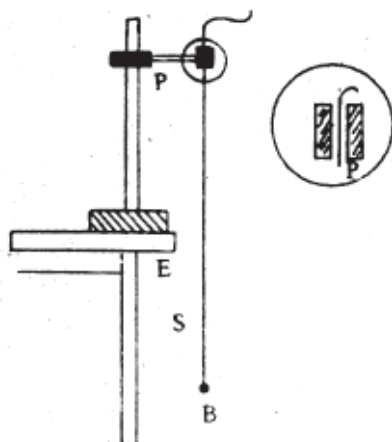
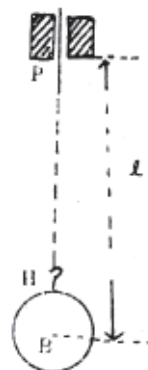

Fig. 4.1
Fig. 4.2
A simple pendulum is a small heavy 'bob' B hanging by a light and 'nextensible' string S (fig. 4.1). In '*equilibrium position*' string is vertical. While oscillating, the '*amplitude of oscillation*' is the maximum angle that the thread makes with the vertical (or sometime the maximum horizontal displacement of the bob). Its '*time period*' T , i.e., time taken for one oscillation depends on its '*length*' i.e. distance from point of suspension to C.G. of bob B (fig. 4.2):
- (ii) Pass the other end of the thread between two pieces of the split cork and clamp it in the clamp of the stand (Fig 4.1). The point P, where the thread comes out of the cork is thus a sharp point of suspension, whose position does not change when the pendulum swings. To ensure this, check up that two pieces of the split-cork have sharp lower edges at P.
- (iii) Make a length of about 125 cm of this pendulum for the first set of readings. Measure the length from foot of the hook H to point of suspension P (fig 4.2), Add to it half the diameter of the bob to obtain l , the length of the pendulum. Length PH must be measured **with bob suspended**, as the thread may have some elastic extension by the weight of the bob.
- (iv) Adjust position of stand to bring this pendulum close to edge E of the table (Fig 4.1). On a white strip of paper stuck at the vertical end face of the table, mark a vertical line. The thread coincides with this line in its vertical position, when you see it from the front.